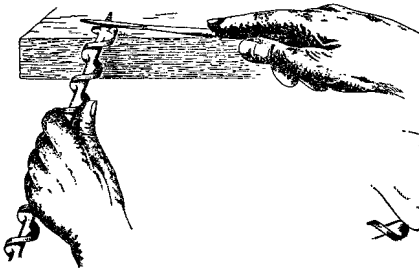

FIGURE 6.
- (1) *Resharpener Screw Point*—The threads of the screw point should not be resharpened unless very dull or badly marred. To restore the threads, rest the bit on the edge of a supporting wood surface with the screw pointing upwards. Place an edge of auger bit file on the bottom of the thread near the cutting edge. Revolve the bit slowly and at the same time file the thread using short, light strokes. Continue this until the point of the screw is reached. See Figure 6. A screw point with the initial threads badly marred or broken off should be repointed with a file. If too blunt a point is obtained to take a hold in the wood, the bit is to be returned for a new one.